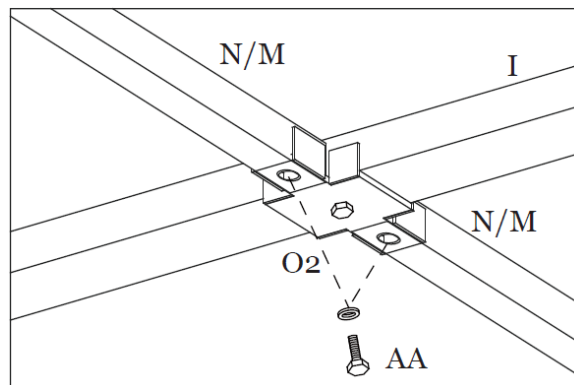

Figure 11-4
Step 11D: Attach the Main Roof Horizontal Supports (M and N) to the Main Roof Connectors (O2) using Bolts (AA). See Figure 11-4.